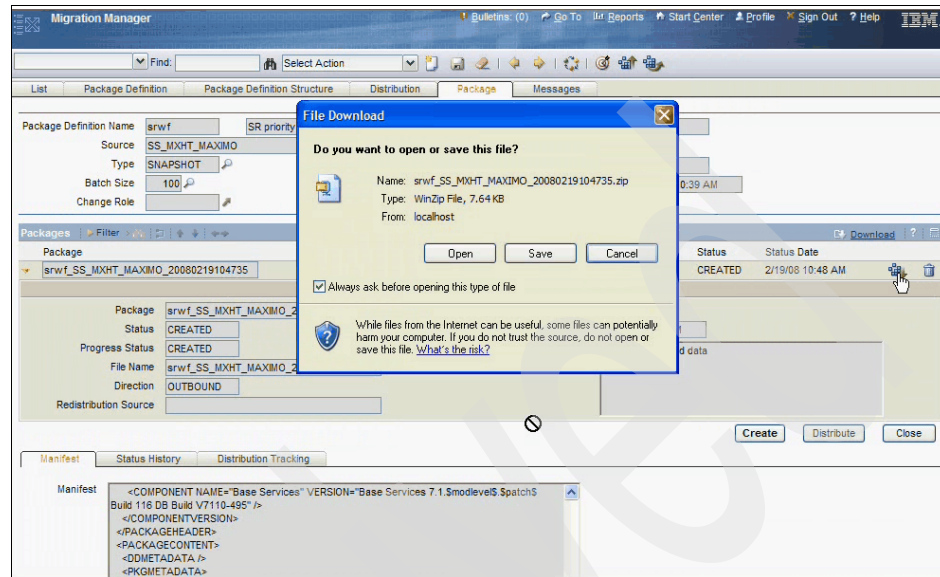

Figure 8-41 Package file download
- Click the **Download** button on the right of the package line, as shown in Figure 8-41.